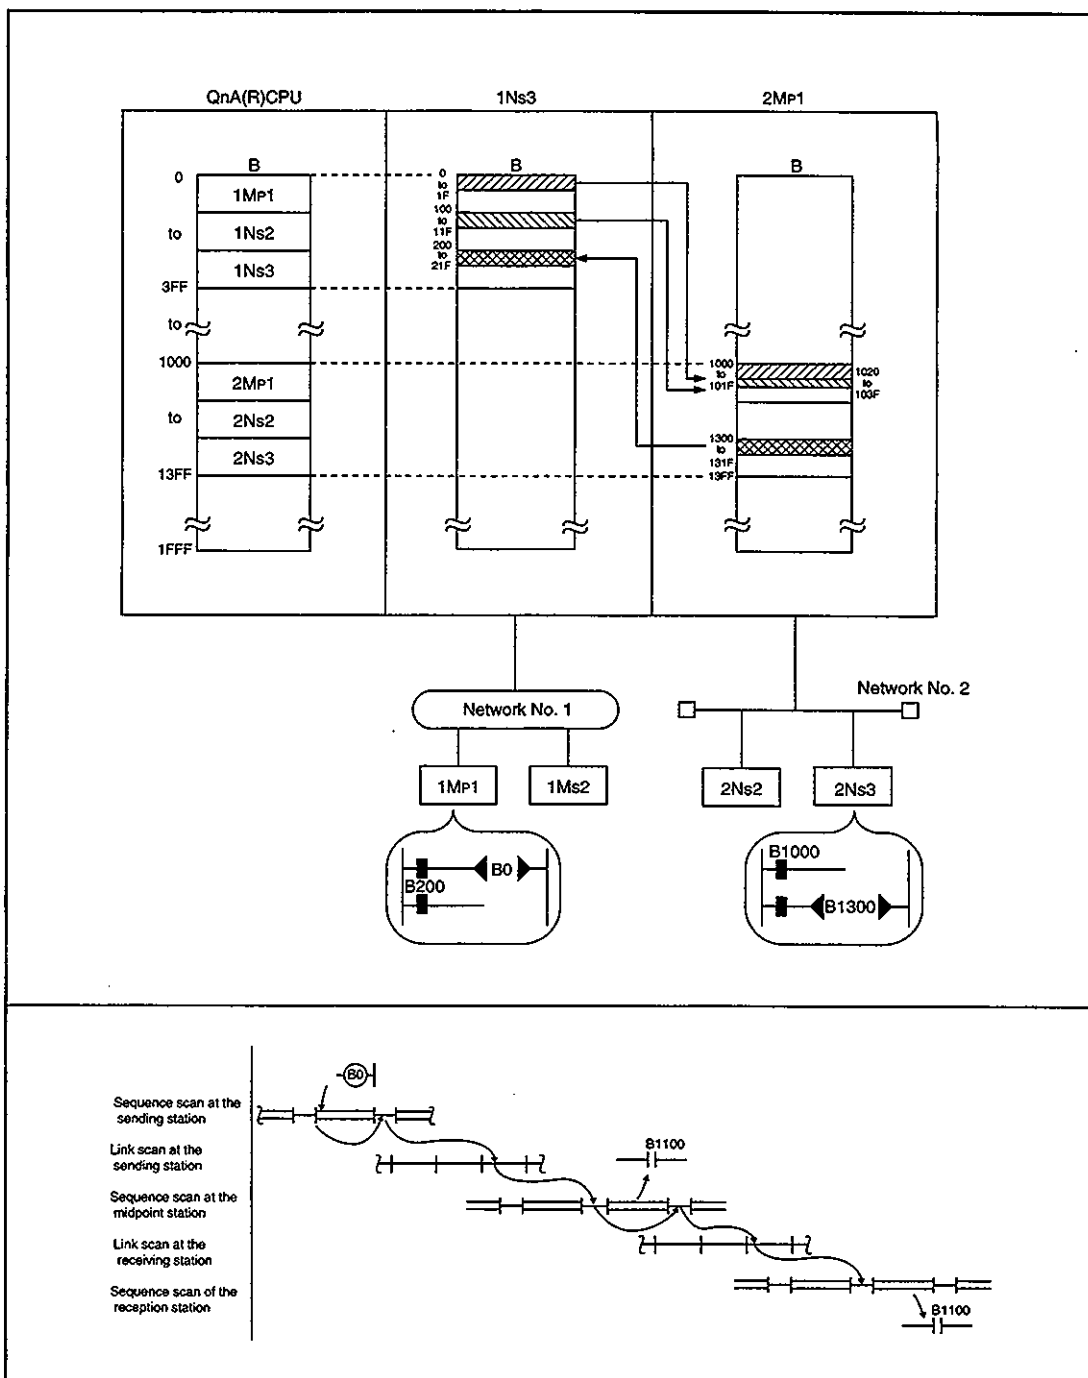

Figure 6.1 Transmission delay in data link transmission
This is the transmission delay time from the station which wrote the data (sending station) to the midpoint station which transmits between data links. In the example shown in Figure 6.1, this is the time to send data from the 1M_P1 station to 1Ns3 station. Calculate the value using the formula for the double layer system transmission delay time shown in Section 6.1.2 (1) (a).
This is the transmission delay time to send the data received from sending station from the midpoint station to the data receiving station. In the example in Figure 6.1, this is the time to send data from the 2M_P1 station to 2Ns3 station.